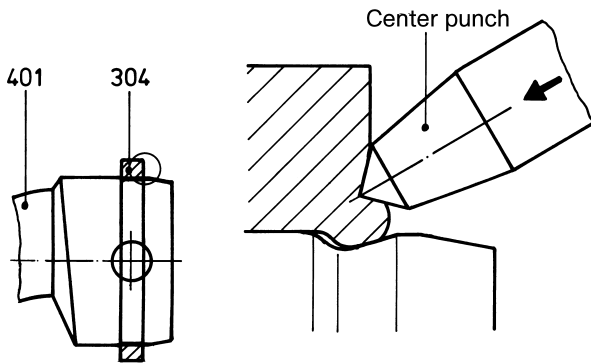

Figure 5: Locking the retaining sleeves
- Insert O-ring (142) into the hollow shaft (125).
- Push hollow shaft (125), insert retaining pin (123) and secure with locking device for retaining pin (124).
- In case of a double-acting mechanical seal, insert O-ring (501) and by means of the hexagon screw (606), fix mechanical seal housing (214) to the bearing housing (110).
- Plug coupling rod pin (301) into the rotor (401) and coupling rod (307).
- Push retaining sleeve (304) onto the head of the rotor (401).
- Following mounting of the retaining sleeve (304), secure same against axial displacement on the rotor head (401).
ATTENTION For these purposes, drive face of the retaining sleeve (304) into the groove at the rotor head (401) with three punch marks offset by 120° (please refer to Figure 5 below).